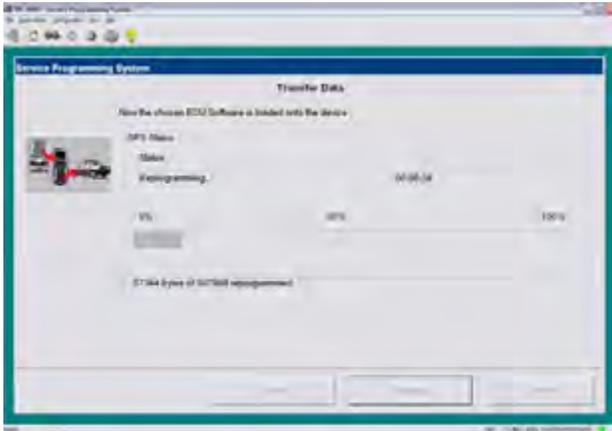

Figure 2.23: Transfer Data Window
- 17 One or more warning message boxes may appear. If so, follow any instructions they provide and click the **OK (or YES)** button on each one to continue the procedure. Do this until the Transfer Data window appears (Figure 2.23 on page 22).